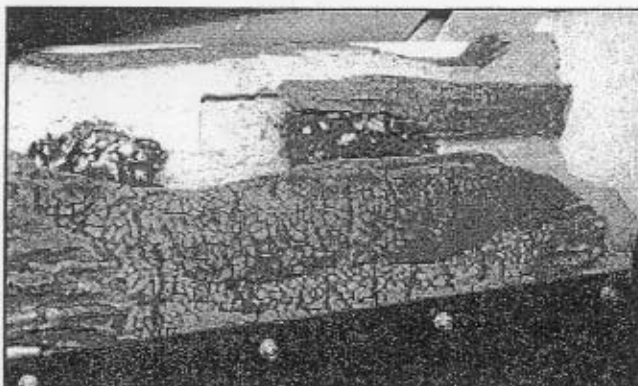

Figure 23A
3. See Figure 23A and 23B. Place the FRONT LOG on the front plate, positioning the FRONT LOG to the left and flush to the firebox front. Place the TOP LOG in the notch on the BACK LOG.